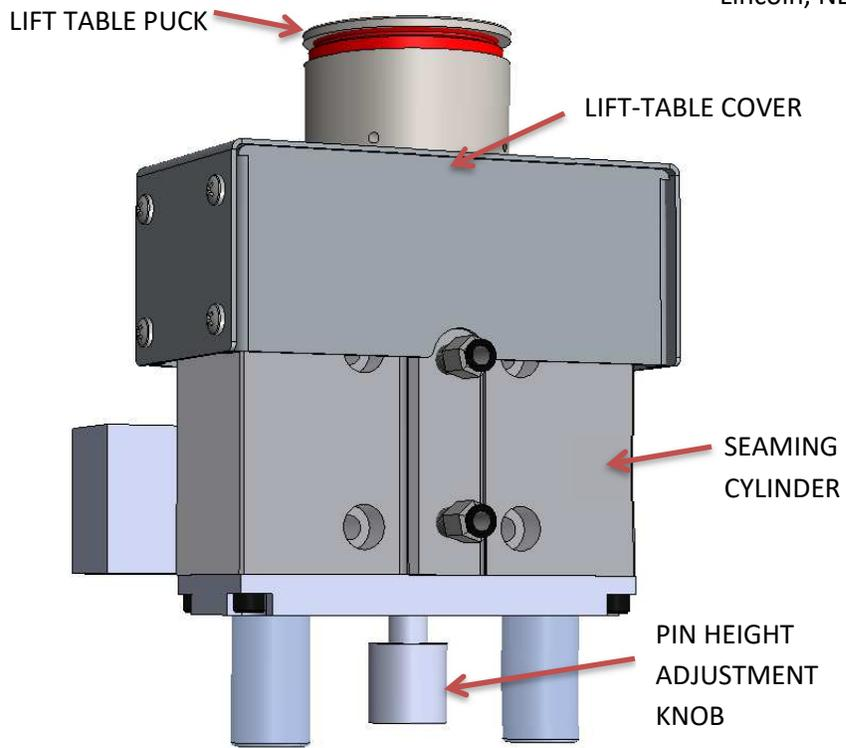

Figure 7- Lift Table Assembly. The lift-table puck height (pin gauge height) can be adjusted by loosening or tightening the adjustment knob.
- b. Adjust height using adjustment knob in Figure 7.